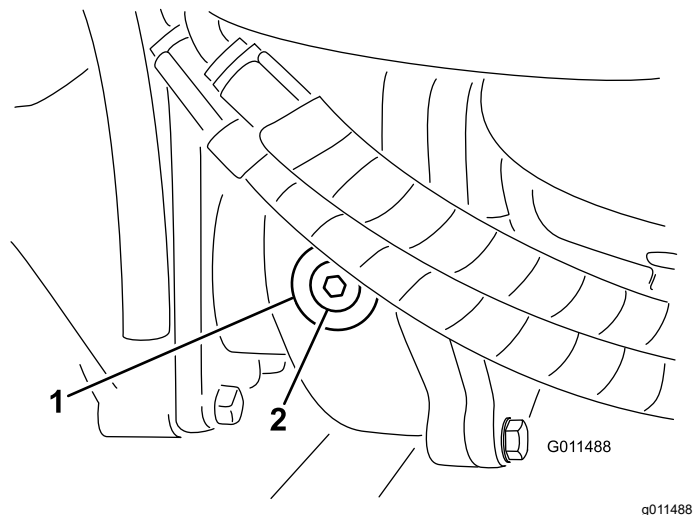

Figure 111
2. Remove the check/fill plug from the left side of the gear box (Figure 111) and make sure that lubricant is up to the bottom of the hole. If the